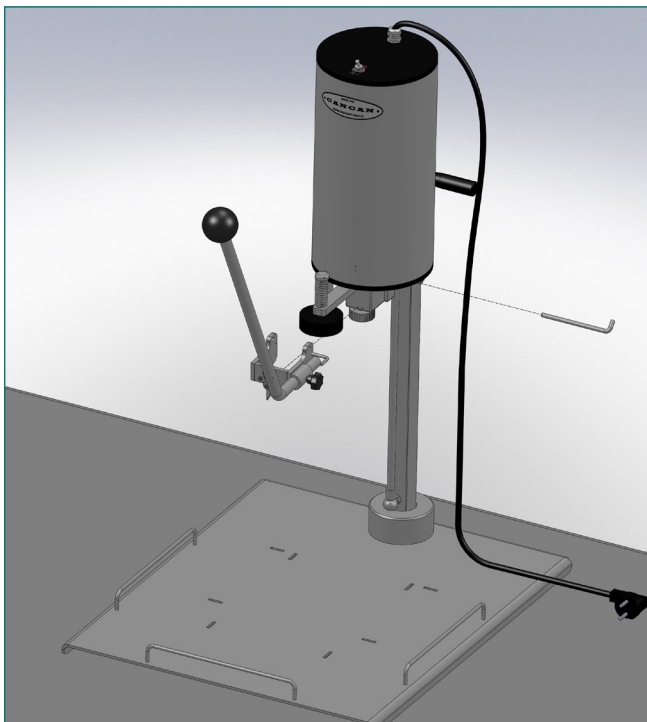

Figure 15
- Always keep the machine and its accessories clean. Arm and U-part can be attached to and removed from the main body. **(Figure 15)**. These parts can be washed with warm water.